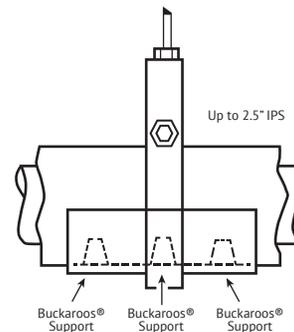

Figure 1
1. Buckaroos® Supports (or standard wood dowels) shall match the wall thickness of the pipe insulation (sizes available for up to 2.5" insulation wall thickness). Figures 1 and 2 indicate the number of supports, and corresponding arrangements commonly recognized as industry standard, but the design engineer is ultimately responsible for determining proper arrangement of supports based on project specific load calculations. Refer to project specifications or submit a request for information to ensure that you are adequately supporting the piping system.
Plug 2 additional Buckaroos® supports at 45° and 135° of each cross-section shown in Figure 1. Altogether, 9 total supports should be installed for these sizes.